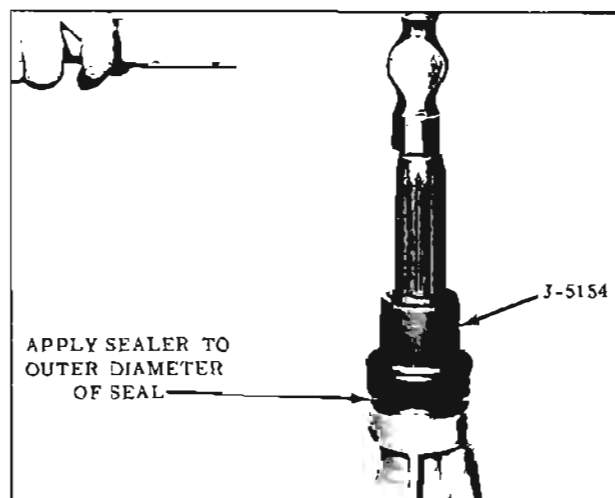

Fig. 11-211 Installing Rear Oil Seal
1. Coat outside diameter of new seal with P.O.B. #3 or equivalent and, using Tool J-5154, drive seal into counterbore until seated. (Fig. 11-211)